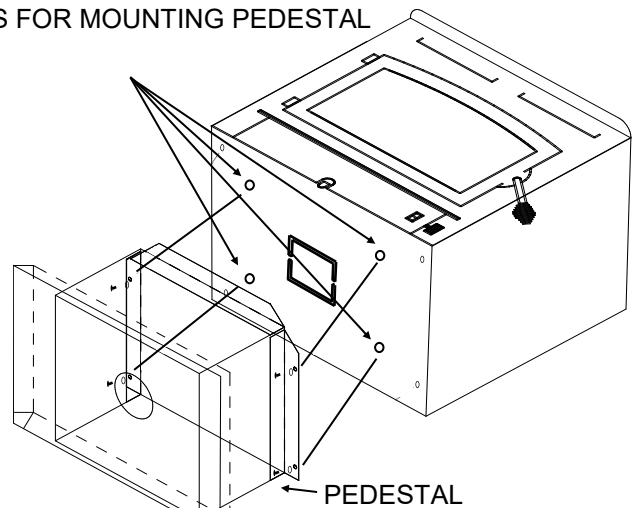

Figure 30 UL103 HT chimneys and parts.
7. Open freestanding kit and obtain stand. Place stand against bottom of heater (angle side to heater). Center stand front to rear and also center stand left and right. Mark screw locations on bottom of the stove through outer holes of stand mounting angles. Set stand aside and drill four 7/32" holes in heater bottom. Then mount stand to bottom of heater with screws provided. (See Figure 30).
8. Obtain four (4) 3/16" self-tapping screws and secure the stand to the heater.